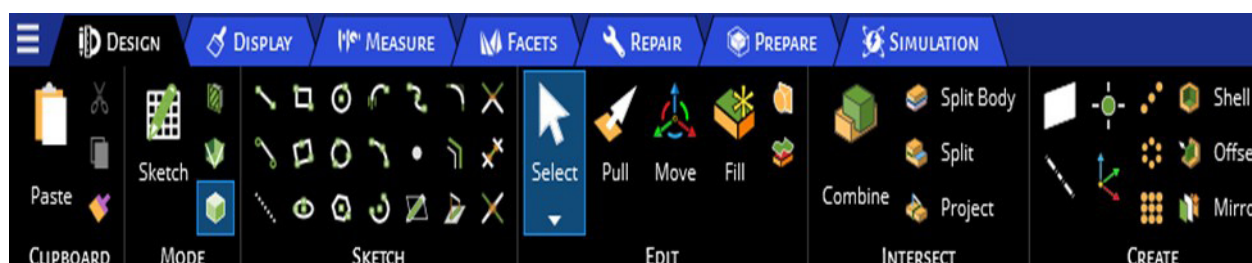

Figure 17: Selecting Design tab.
1. Navigate to the “Design” section in the Ansys Discovery toolbar (Fig. 17).